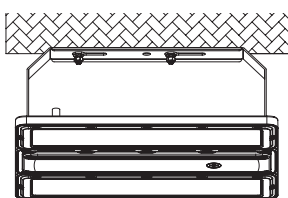
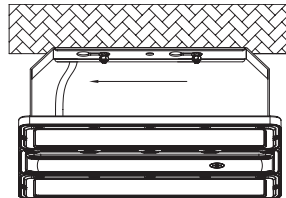

Figure 6
Figure 7
Step3. Align the holes in the luminaire's mounting bracket with the expansion screws (Figure 6), push the product to one side (Figure 7), and then tighten the nuts on the expansion screws with a wrench.